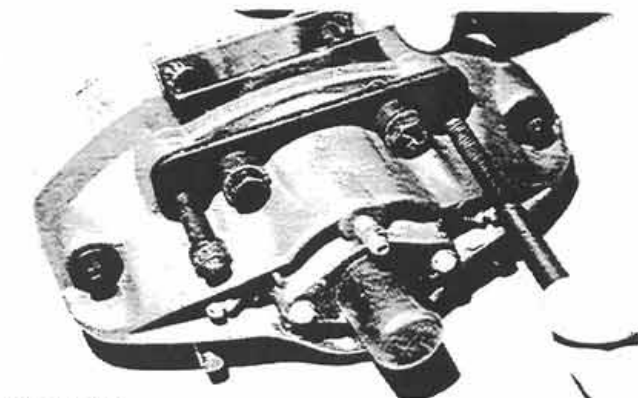
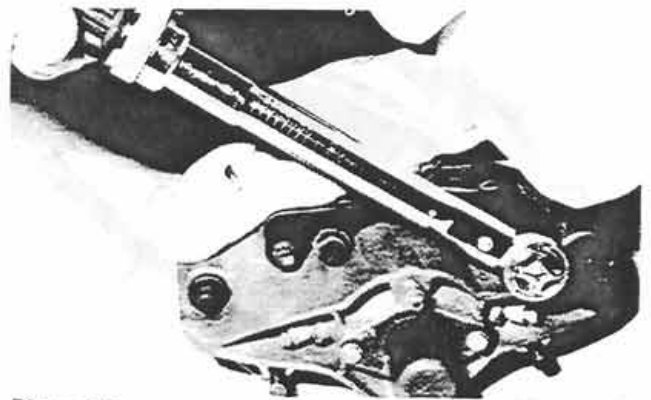

Figure 24:
Figure 25:
12. Install the remaining two twelve-point bolts (without washers) through the outermost two holes of the bridge plate (Fig. 24). After carefully aligning to avoid binding of the bolt threads, torque the bolts to 44 lb. ft. (6.08 Kg/M). The inner set of twelve-point bolts should be torqued before the outer set (Fig. 25).